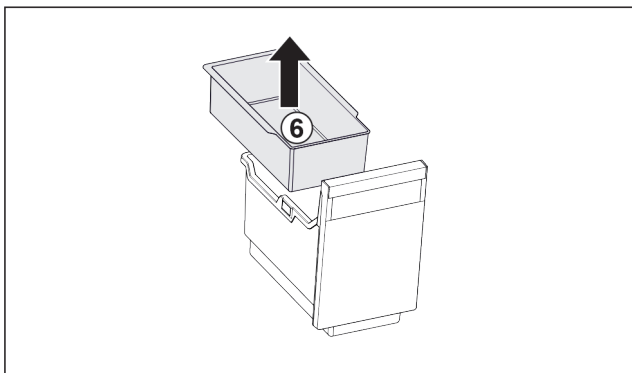

Fig. 26
- ▶ Remove the hang-on tray *Fig. 26 (6)*.